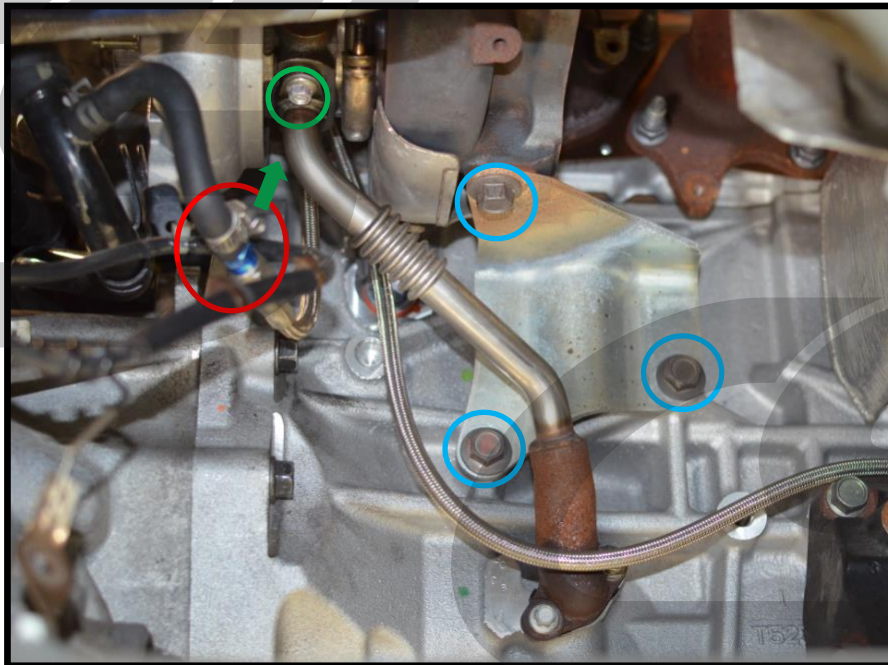

Figure 7a
Since the MS6 transfer case makes these components hard to see, Figure 7a below is from a Mazdaspeed 3. Most of the disassembly on this page will need to be done from above the engine by feel. All locations are identical to MS3.
- a) Remove the lower coolant line from the turbo, shown with the **red circle** in **Figure 7a**.
- b) Remove the two 8mm bolts holding the oil drain line to the turbocharger, shown with the **green arrow & circle** in **Figure 7a**.
- c) Remove the three 14mm bolts holding the turbo support bracket, **circled in blue** in **Figure 7a**.